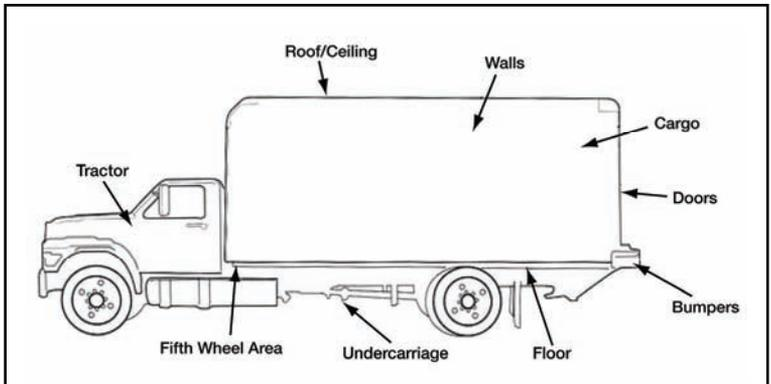

Figure 191-376-5141-9. Semivan trailer/straight-box truck/step van
- j. Determine if the commercial vehicle is a refrigeration trailer (see figure 191-376-5141-10).